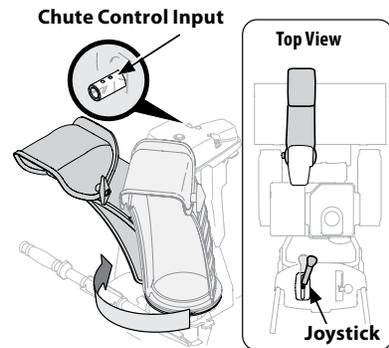

Figure 2-22
4. Squeeze trigger on joystick and rotate chute by hand to face forward. The holes in chute control input will be facing up. See Figure 2-22.